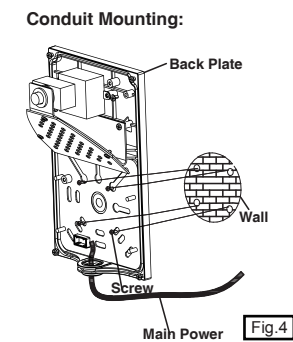

Fig.4
**Conduit Mounting:** Feed main power wires through ½” threaded conduit hole on the bottom of the back plate and mount back plate against the wall. (Fig. 4)